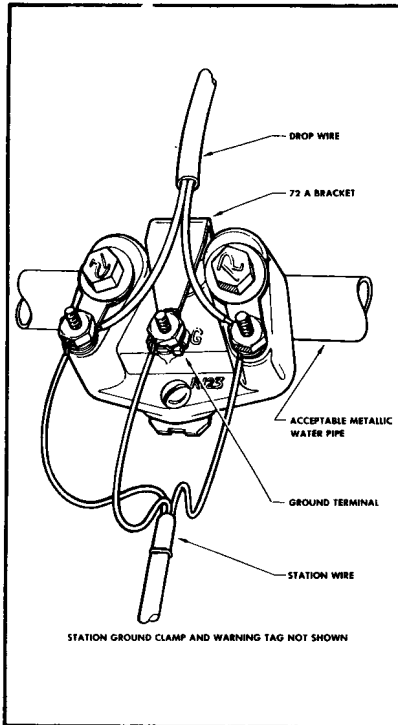

FIGURE 4. 123 Type Protector Installed on a Metallic Water Pipe (for Indoor Use Only)
c. Place the mounting screw furnished with the 72A bracket in the bottom mounting hole of the 123 type protector and into the threaded hole of the bracket. Tighten the mounting screw, ground terminal nut, and protector ground terminal nut. See Figure 4.